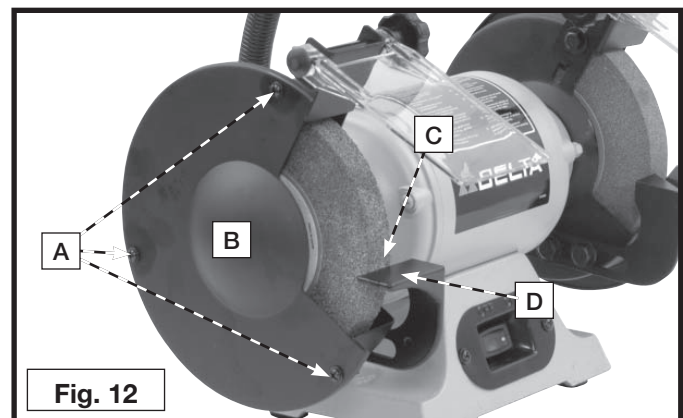

Fig. 12
1. Remove the screws (A) Fig. 12 and the side covers (B) from the grinding wheel.
2. To prevent shaft rotation, place a wedge between the grinding wheel (C) and the tool rest (D).